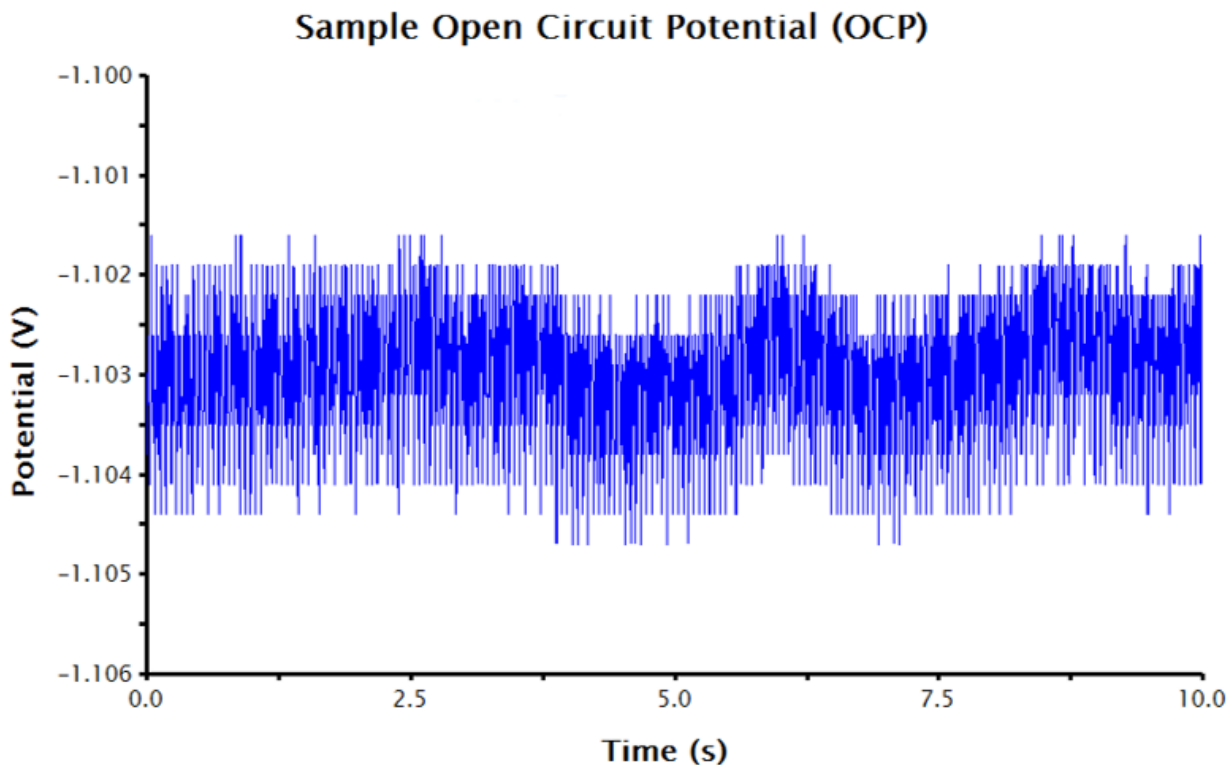

Figure 1. Raw OCP Data in AfterMath with Acceptable Noise.
3. Press **Perform**. AfterMath will collect and display the OCP data. Ideally, the potential vs. time trace that results should approach a zero slope, indicating equilibrium between the solution and electrodes. Typically, there is a small potential deviation over time ( $100 \mu V$  in variance). This deviation is normal noise in the measurement (see: Figure 1)